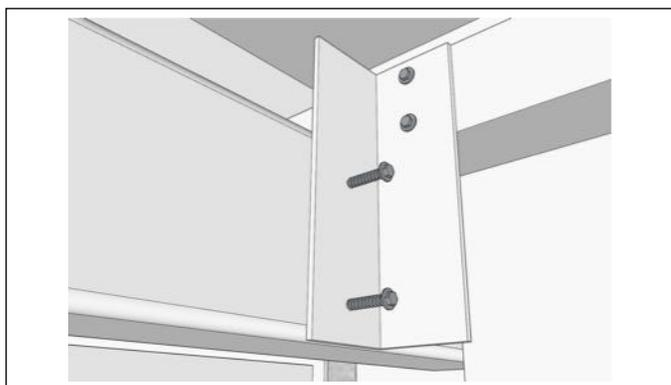

Fig 12
7. Using supplied Tek screws, secure connecting bracket to outrigger (Fig 12 & 13).